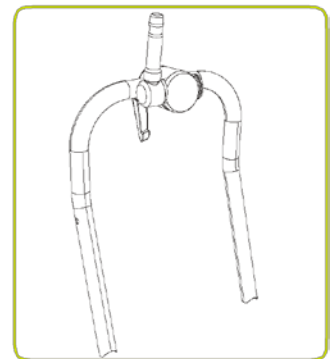

Figure 11.5: Installed pushrod camp
8. The clamp should look appear as shown in Figure 11.5.